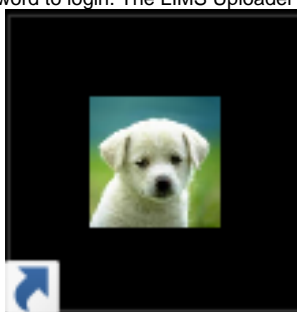
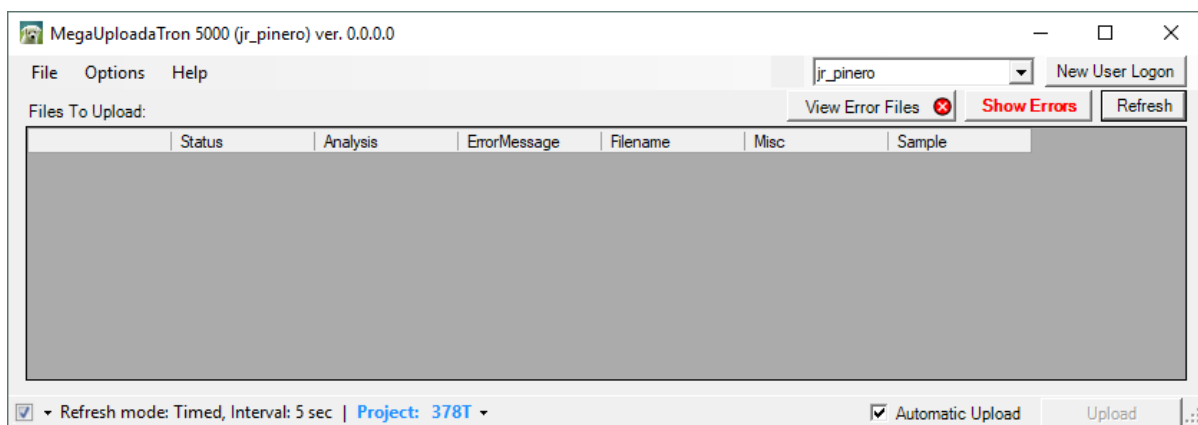

Figure 12. Desktop MUT icon
Figure 13. LIMS Uploader window
1. Open up MUT (Figure 12). Use LIMS Applications password to login. The LIMS Uploader window will open (Figure 13).